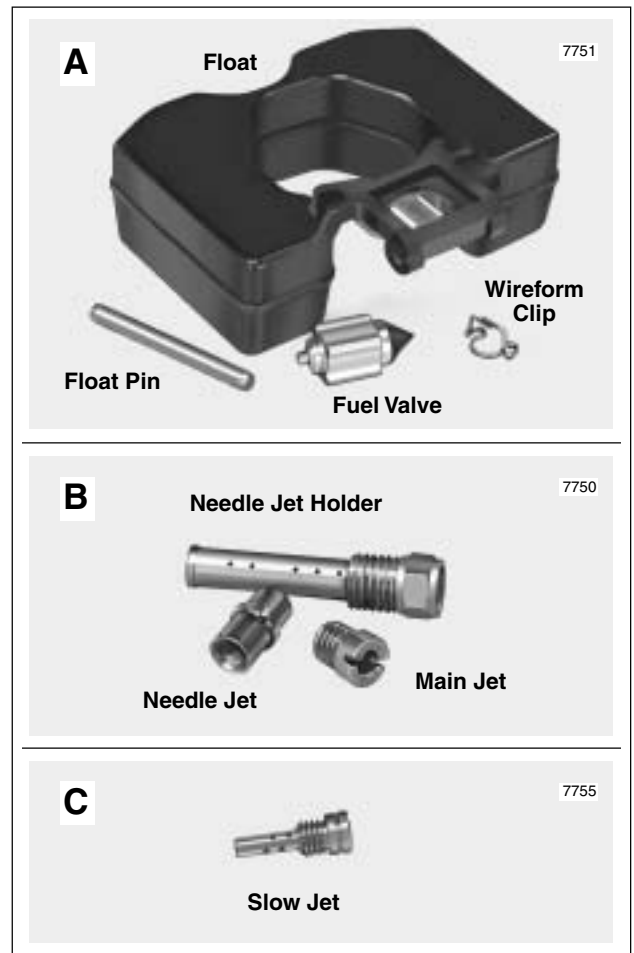
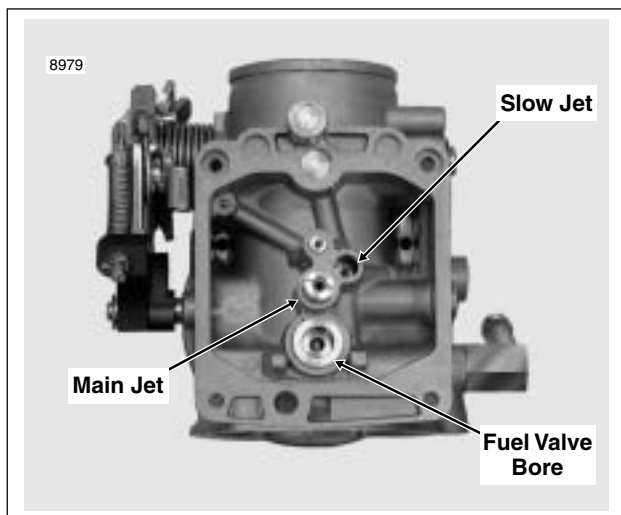

Figure 4-9. Float Chamber Components
Figure 4-11. Carburetor Housing
- Remove float and fuel valve. Carefully slide clip on fuel valve from tab on float. Remove wireform clip from groove in fuel valve. See A of Figure 4-9.
- Using slot at top, turn main jet with flat tip screwdriver to unthread from needle jet holder. If necessary, hold hex on needle jet holder with a 5/16 inch wrench to prevent rotation. See Figure 4-11.
- Turn carburetor right side up to drop out needle jet, which is loose in main jet bore. See B of Figure 4-9.
- Insert thin bladed flat tip screwdriver into slow jet bore. See Figure 4-11. Using slot at top of slow jet, unthread to remove. See C of Figure 4-9.
1. Thoroughly clean all loose parts with carburetor cleaner. See Figure 4-9. Blow dry using low pressure compressed air.
1. Place needle jet into main jet bore. See Figure 4-11. Be sure end with chamfered edge and larger ID goes in first.
4. Insert slow jet into slow jet bore. See Figure 4-11. Insert thin bladed flat tip screwdriver into bore, and using slot at top of slow jet, tighten until snug.
6. Place float into cavity of carburetor inserting fuel valve into bore between pedestals. See Figure 4-11.